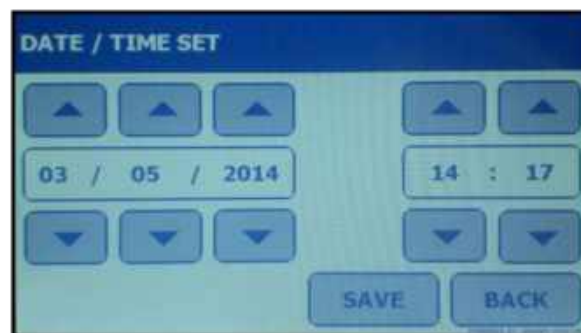

Figure V-23: 'DATE/TIME SET' Screen
2. Press the up/down arrows [ / ] to program each parameter \(Figure V-23\).